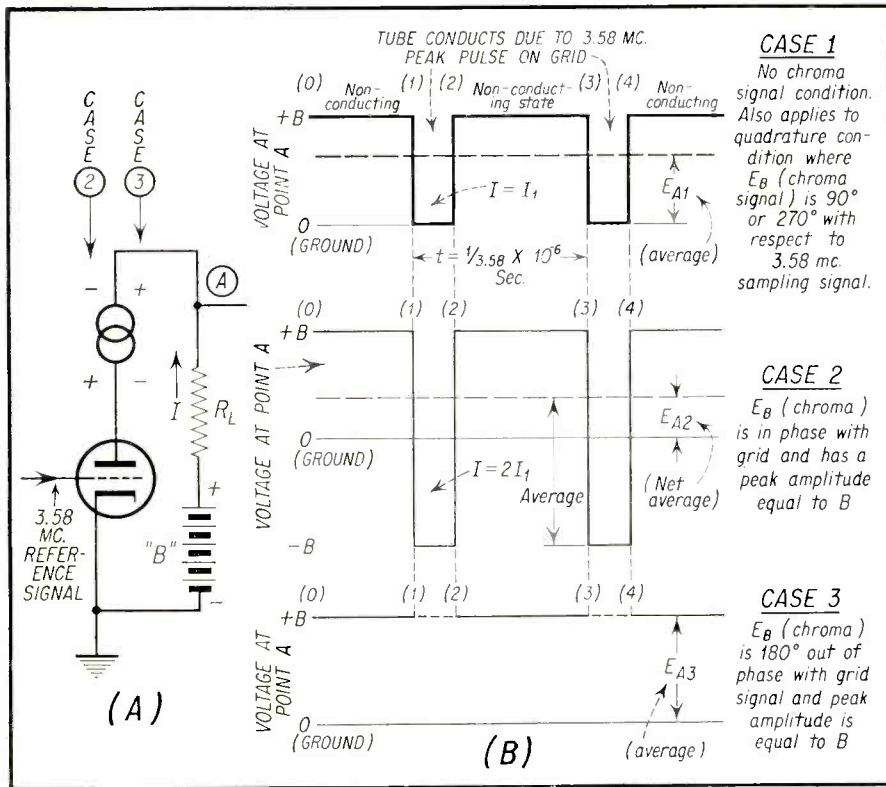

Fig. 2—Voltage at point "A" for various values of chroma voltage  $E_B$ .
A clearer understanding of high level 3-tube triode demodulation may perhaps be obtained by a study of Fig. 2. Here we show an equivalent circuit diagram at the left of the figure as (A), along which are developed the plate voltages for three different chroma signal conditions. The chroma signal is shown applied in series in the plate circuit as  $E_{\mu}$ . In this illustration we arbitrarily assume a maximum peak chroma signal value equal to the battery voltage B. Of course this value may vary between zero and the maximum peak. The demodulated signal output which appears across the load resistor  $R_L$  is taken off at Point A.
During the intervals between (1) to (2) and (3) to (4) the positive 3.58 mc pulse is high enough to drive the tube into conduction. This results in a plate current  $I_1$  as shown. As a result of this plate current a voltage drop takes place across  $R_L$  which is opposite in polarity to the battery voltage. For the particular values shown in Fig. 2 this voltage drop is equal to the battery voltage, and the voltage at point A drops to zero. In the above described action the on-off (conduction-nonconduction) behavior of the tube is like a switch. We assume, for this analysis, that the tube acts like a "short" from plate to cathode when it conducts, and an "open-circuit" when it is non-conducting.
A study of Fig. 2-Case 2 will show this up clearly.